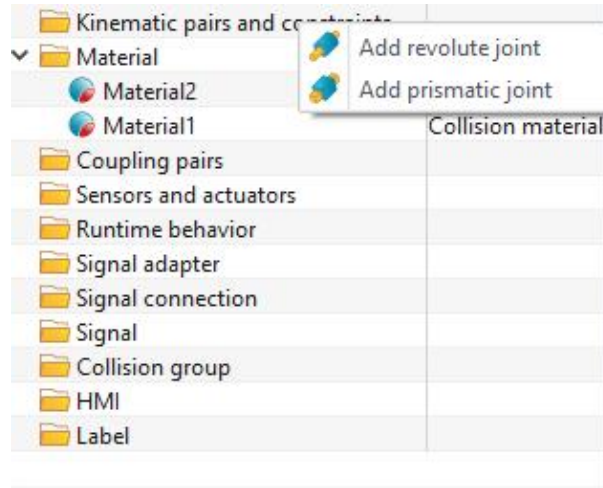

Figure 13-18: Add kinematic pairs
- Open the "Kinematic pairs and constraints" window and select "Add Revolute and Prismatic joints".(Figure 13-18)